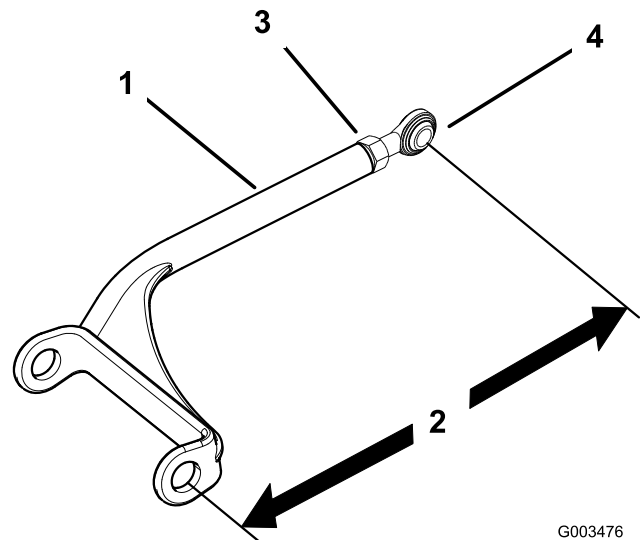

Figure 54
- Loosen the jam nut and rotate the ball joint counterclockwise, one turn at a time (Figure 54).
- Adjust each side the same amount. Each push arm should have a length of 15-1/8 inch (384 mm) (Figure 54).